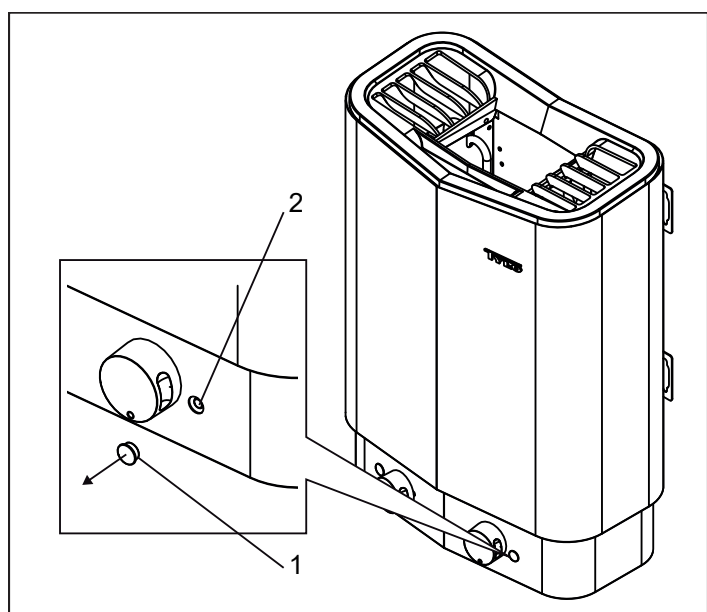

Figure 5: Resetting the temperature cut-out
The temperature cut-out in the heater is there to protect the components, tubular elements and woodwork in the sauna from overheating. If the temperature cut-out is triggered, it must be reset before the heater can be turned on again. The cause of the overheating must be established before resetting the temperature cut-out. To reset the temperature cut-out, remove the cover plug (1) (see Figure 5) and depress it (2) until it clicks.